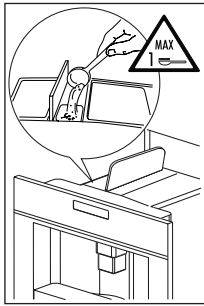

Fig. 26
- ▶ Lift the central lid, place one measure of preground coffee in the funnel (Fig. 26), push the appliance in then proceed as described in the section "Making coffee using coffee beans".